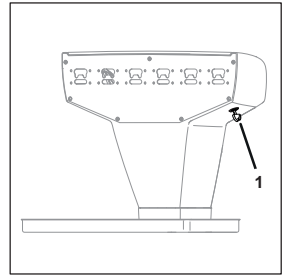

Fig. 7
1. Turn the key switch (Fig. 7/1) to position "0".